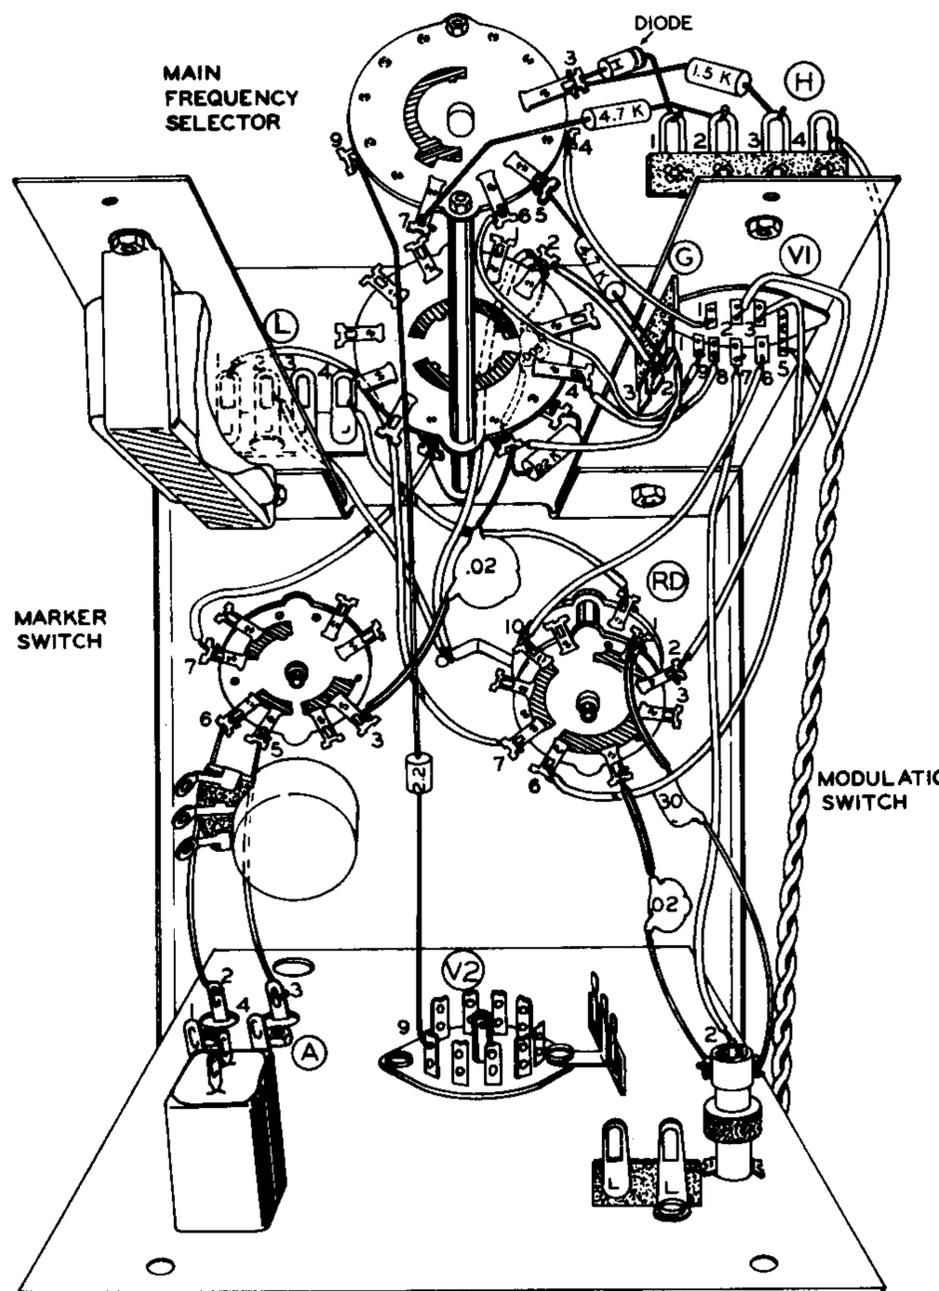

Figure 12
(✓) Mount the oscillator subchassis in position as shown in Figure 12, using 6-32 hardware as indicated in Figure 10 on Page 27. It will be helpful to dress the leads in the direction of their connections before mounting.
- (✓) Connect the wire coming from lug 7 of wafer RD on the MODULATION switch to lug 1 of terminal strip L (S-2). See Figure 12 on Page 29.